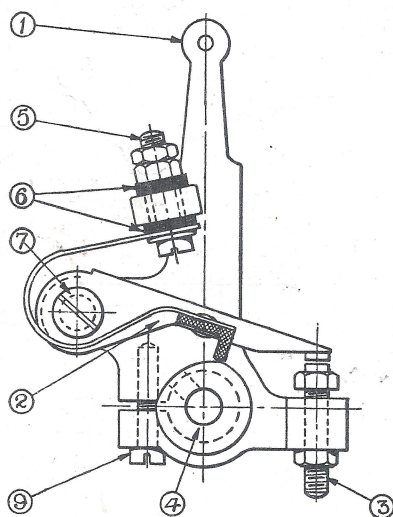

Fig. 2. Contact-breaker employing a Delco-Remy lightweight interrupter arm.
I have adapted this arm to the contact-breaker shown in Fig. 2, which is extremely simple to construct, and can be guaranteed satisfactory. The backplate (1) may be either cast or cut from a solid piece of aluminium; in the latter case the spring stop and contact block should be securely riveted on. It is clamped on the bearing housing by means of the screw (9), sufficiently tightly to prevent unwanted movement, in cases where the extremity of the lever is not coupled to a control rod. The Delco-Remy arm (2) is pivoted on the screw (7) 3/16" diameter on the plain portion, turned down to 4 B.A. and lock-nutted to the backplate. The only insulation needed consists of two fibre washers (6) with spigots fitting the enlarged hole in the spring stop; the screw (5) securing the tail of the spring forms the terminal. It should be noted that the arm is insulated from the pivot by means of a fibre bush.